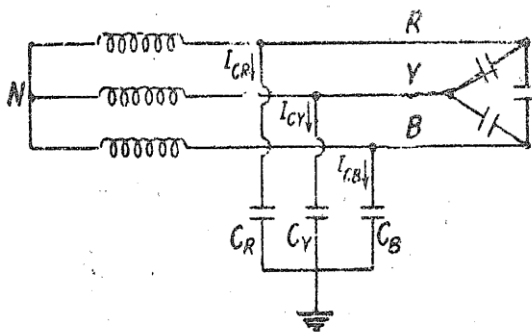

Fig. 9.1
9.1. Neutral Grounding. A simple underground-neutral system is shown in Fig. 9.1. The line conductors have capacitances between one another and to ground, as represented by the delta and star connected sets of capacitances.